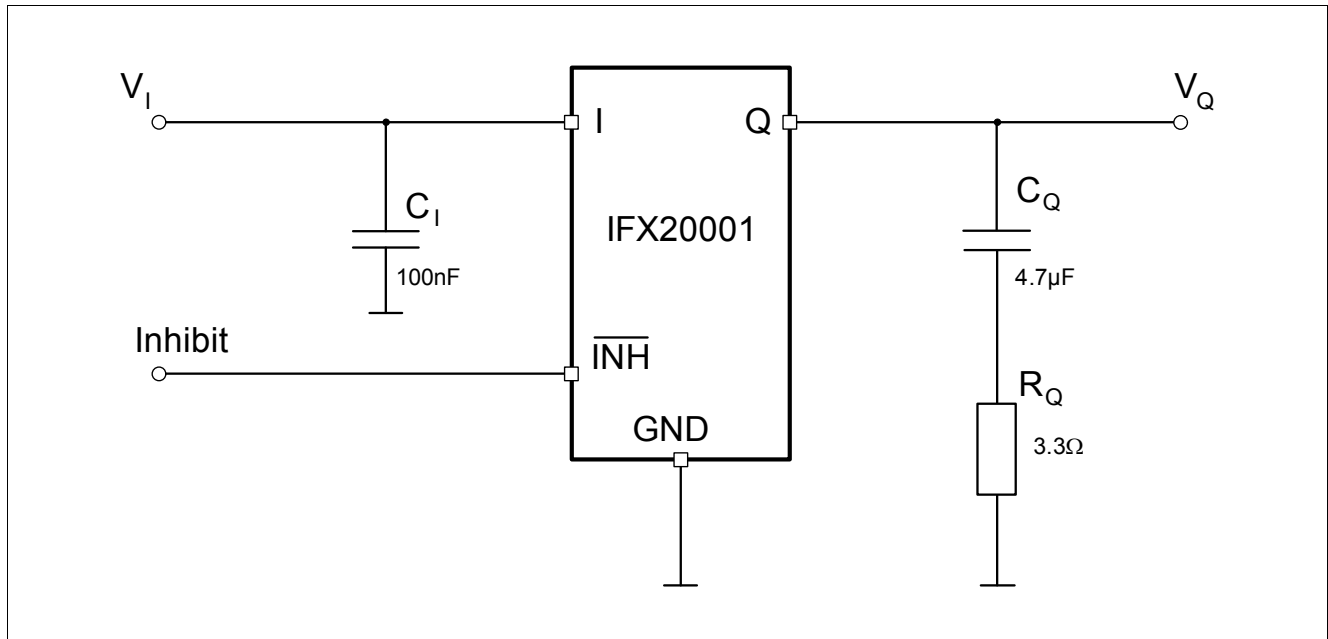

Figure 3 Application Diagram
**Figure 3** shows a typical application circuit. In order to maintain the stability of the control loop the IFX20001 output requires an output capacitor  $C_Q$  of at least 3.3  $\mu\text{F}$  with a minimum required ESR of 2.5  $\Omega$  and a maximum allowed ESR of 6  $\Omega$  for the IFX20001MBV33 and 8  $\Omega$  for the IFX20001MBV50. It is recommended to use for  $C_Q$  a suitable tantalum capacitor or a multilayer ceramic capacitor with a sufficiently dimensioned series resistor in order to cover the required ESR range over the full operating temperature range from -40  $^{\circ}\text{C}$  to 125  $^{\circ}\text{C}$ .1)